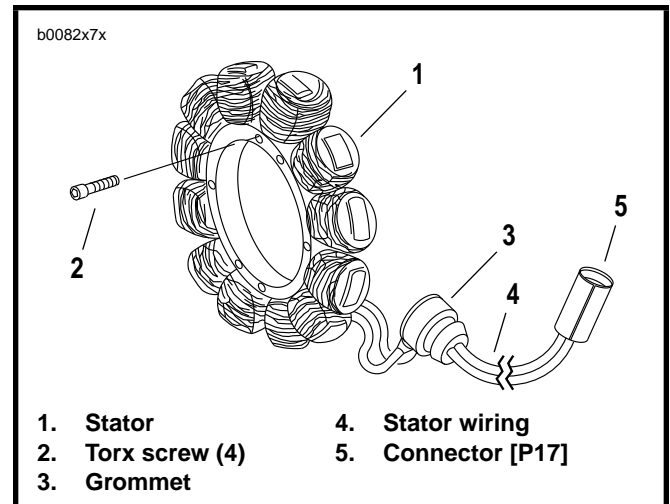

Figure 7-27. Stator Assembly
1. See Figure 7-27. Disconnect stator wiring (4) from voltage regulator wiring at connector (5) [P17].
3. Withdraw stator wiring (4) from below starter.
4. Remove and discard the four Torx screws (2) which secure stator (1) to left crankcase half.
1. See Figure 7-27. Feed stator wiring (4) with attached grommet (3) into open grommet hole in left crankcase half.